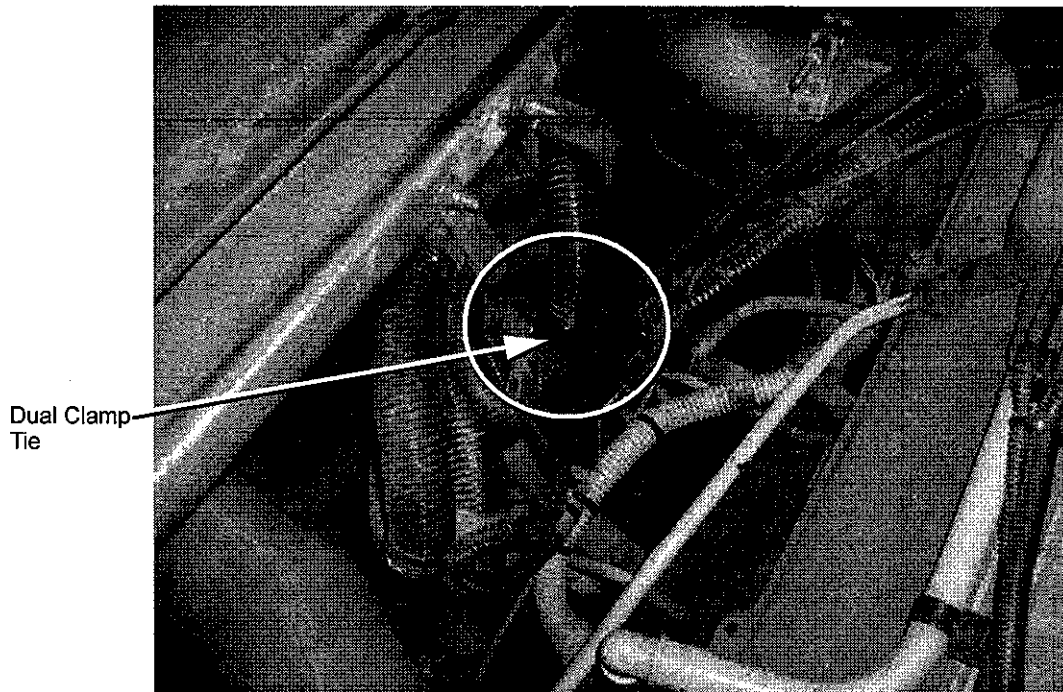

FIGURE 1-3 ALTERNATOR AND GRID HEATER CABLES WITH DUAL CLAMP TIE INSTALLED
2. Lift the cables clear of the injector line(s) and secure with a Dual Clamp Tie (**ORION P/N 051048002**) as indicated in **Figure 1-3**.